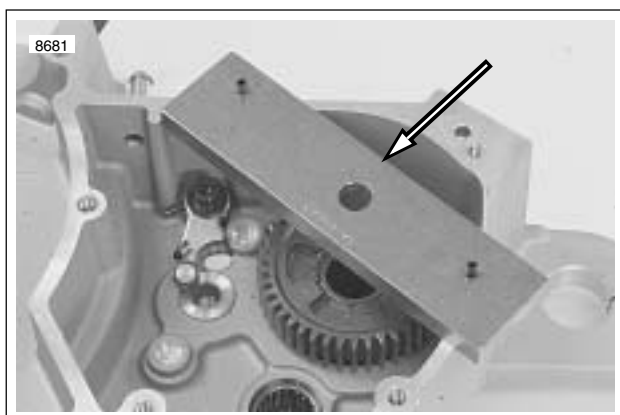

Figure 6-70. Bearing Remover Cross Plate Mounting (Part No. B-45847)
4. See Figure 6-70. Place cross plate on crankcase as shown.